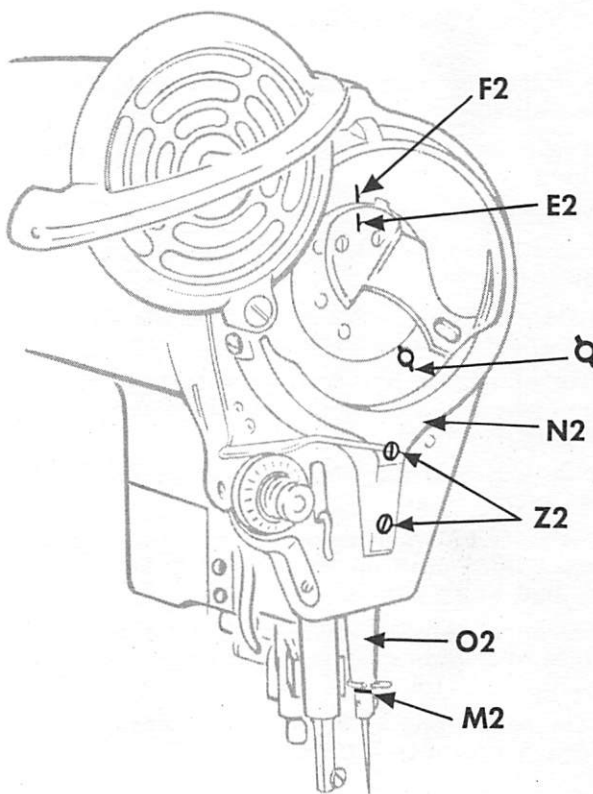
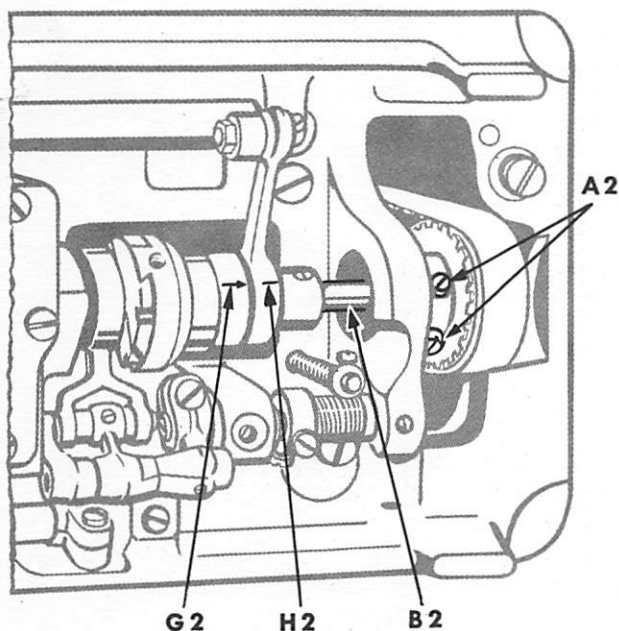
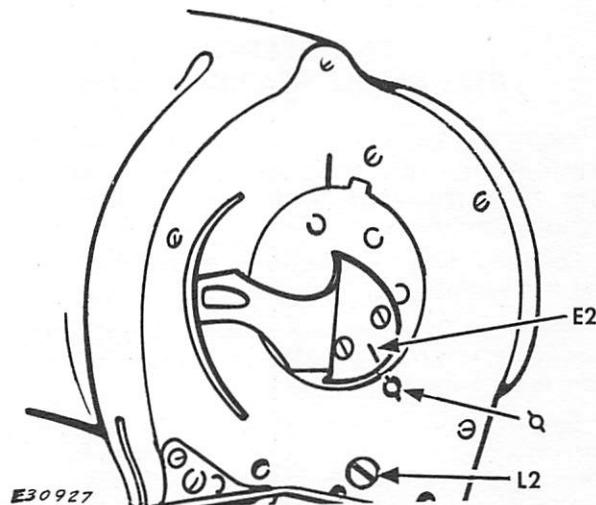

Fig. 32 Timing Mark on Take-up
Fig. 33 Timing Mark on Feed Lifting Connection
Fig. 34 Needle Bar Setting
Arm shaft and hook driving shaft (with their components) are in time with each other, for average sewing, when timing mark **E2**, Fig. 32, page 16, on take-up is in line with mark **F2**, Fig. 32 on face plate, at same time that mark **G2**, Fig. 33, page 16, is in line with timing mark **H2**, Fig. 33 on feed lifting connection.
To adjust for average sewing conditions, loosen the two pulley screws **A2**, Fig. 33; align timing marks **E2** and **F2**, Fig. 32 and turn shaft **B2**, Fig. 33 as required to align arrow **G2** with mark **H2**, Fig. 33.
Turn machine pulley over away from you until timing mark **E2**, Fig. 32 on take-up is in line with mark **F2**, Fig. 32 on face plate.
Needle bar should then be at its highest position and lower timing mark **M2**, Fig. 32 on needle bar should be just visible below lower end of needle bar bushing.
To set needle bar at correct height, remove two screws **Z2** and rotary take-up guard **N2**, Fig. 32 and loosen needle bar connecting stud pinch screw **L2**, Fig. 34, through hole in face plate. Move needle bar to correct height and securely tighten screw **L2**.
Loosen screw **L2**, Fig. 34.
Drive needle bar bushing **O2**, Fig. 32, page 16 up or down in casting as required to bring its lower end level with the **lower timing mark M2**, Fig. 32 on needle bar.
1. Remove the two screws Z2, Fig. 32, page 16 and take-up guard N2, Fig. 32.
5. Replace take-up guard N2, Fig. 32, page 16 and securely tighten two screws Z2, Fig. 32.